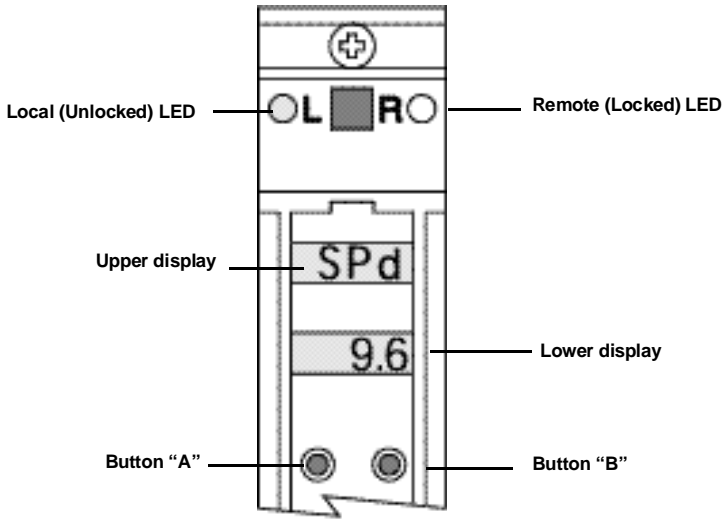

Figure 5-8. Control module in Control In/Out bps rate menu.
2. Press the "A" button to cycle through the menus in the upper display. Select the "SPd" menu as shown in Figure 5-8.